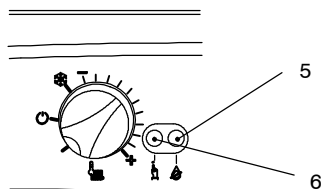

Fig. 3.2
**If the lock-out signal lamp (5 in Fig. 3.2) comes on**
To re-start the boiler, it is necessary to press the boiler reset button 6 (Fig. 3.2).